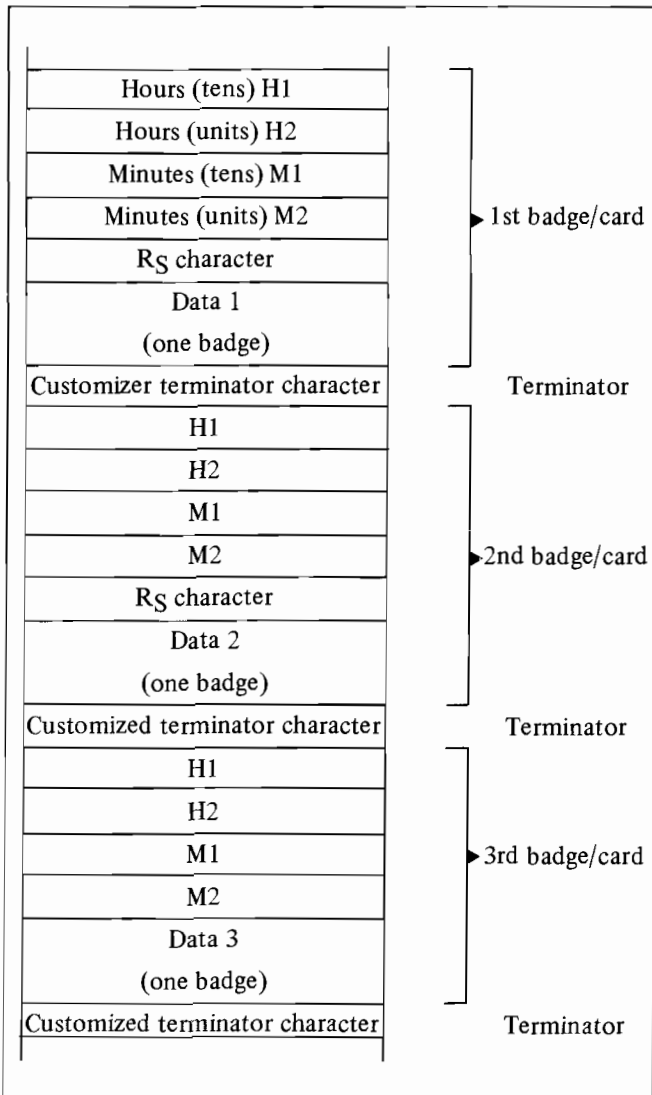

Figure 13-3 Output Buffer - Buffered Mode Point-to-Point Connection
In buffered mode with point-to-point connections; when the data is stored in the terminal output buffer (see section 13-4), the first four characters in the output buffer (before the badge/card data) are the current time information (see figure 13-3). They are separated from the badge/card data by the ASCII Record Separator character (RS). The time of entry/data from one badge is separated from the time of entry/data of the next entered badge by the customized terminator character.